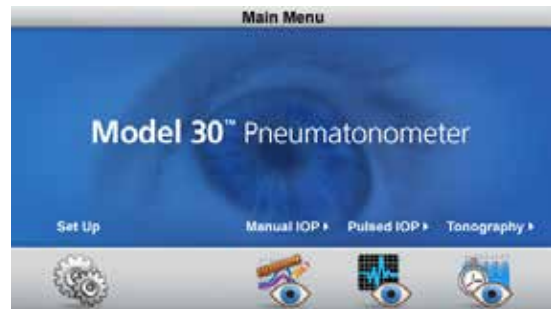

Figure 7-1, Main Menu Screen
1. With the main menu displayed, touch the TONOGRAPHY icon. Refer to Figure 7-1.